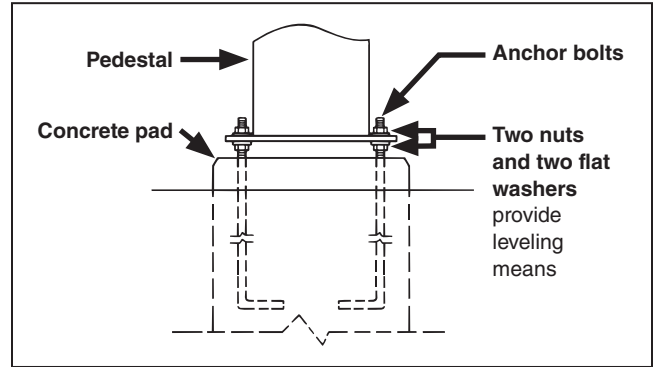

Figure 3. Pedestal mounting detail.
- (a) Install the lower set of anchor-bolt nuts and flat washers onto the pre-installed anchor bolts. Level all anchor bolts at the same height, leaving space below and above for leveling. See Figure 3 on page 11.
- (d) Lower the pedestal onto the anchor-bolt nuts and flat washers. Loosely secure a flat washer and nut to each anchor bolt above the pedestal base. See Figure 3. Remove the lifting slings and eyebolts.
- (e) Adjust the lower set of anchor-bolt nuts to plumb and level the pedestal. The upper set of anchor-bolt nuts should remain loosely attached. See Figure 3.
Use a level to verify the high-speed base is horizontal, both lengthwise and sideways. Adjust the lower set of anchor-bolt nuts at the pedestals to achieve level. Refer to the catalog drawing for details. See Figure 3 on page 11 for anchor-bolt nut detail.
STEP 6. Check the lower set of anchor-bolt nuts at each mounting pedestal to verify all nuts are in contact with the bottom of the pedestal. See Figure 3 on page 11. Hand-tighten the lower anchor-bolt nuts as necessary. Then, securely tighten the upper set of anchor-bolt nuts at each mounting pedestal.